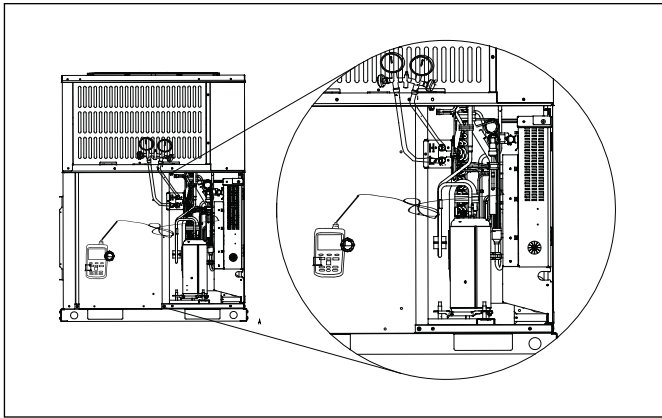
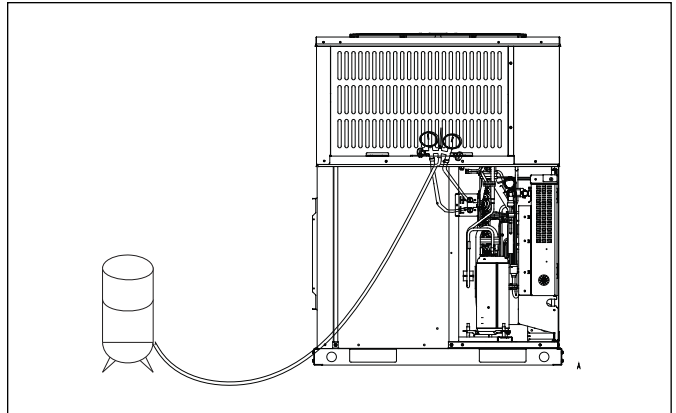

Figure 38
Figure 39
- Connect gauges to refrigerant bottle and unit as illustrated (Figure 38 and Figure 39).